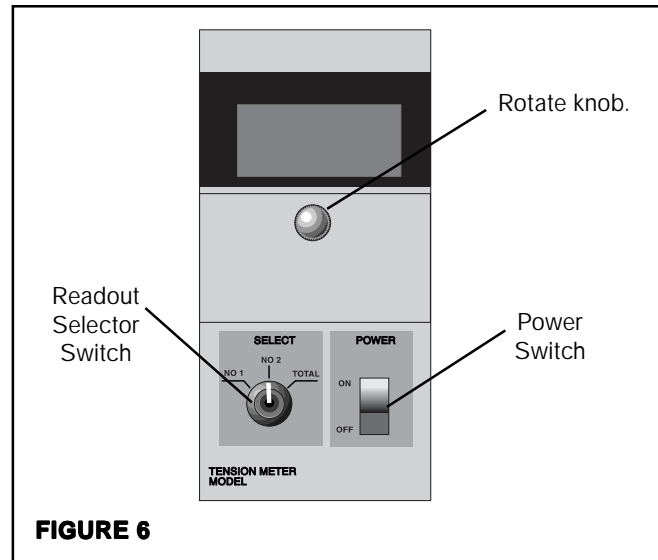

FIGURE 6
1. Set **Power Switch** to **ON** (See Fig. 6).
2. Rotate the knob in the upper portion of the Front Panel to release the catch, then open the Front Panel (See Fig. 6).
4. Set the **Readout Selector Switch** to **No. 1** (See Fig. 6).
6. Set the **Readout Selector Switch** to **No. 2** (See Fig. 6).
8. Set the **Readout Selector Switch** to **TOTAL**, the Indicator must still read **0** (See Fig. 6). If not, repeat steps 4 through 7.
10. Set the **Readout Selector Switch** to **No. 1** (See Fig. 6).
12. Set the **Readout Selector Switch** to **No. 2** (See Fig. 6).
18. Set **POWER SWITCH** to **OFF** (See Fig. 6)